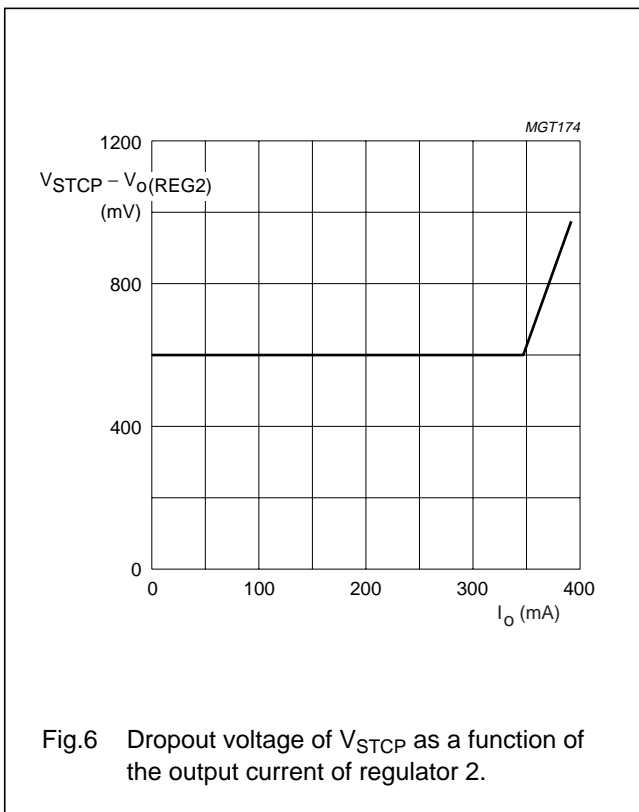

Fig.6 Dropout voltage of  $V_{STCP}$  as a function of the output current of regulator 2.
4. The dropout voltage of regulator 2 is the voltage difference between  $V_{STCP}$  and  $V_{o(REG2)}$  and depends on the load current (see Fig.6).